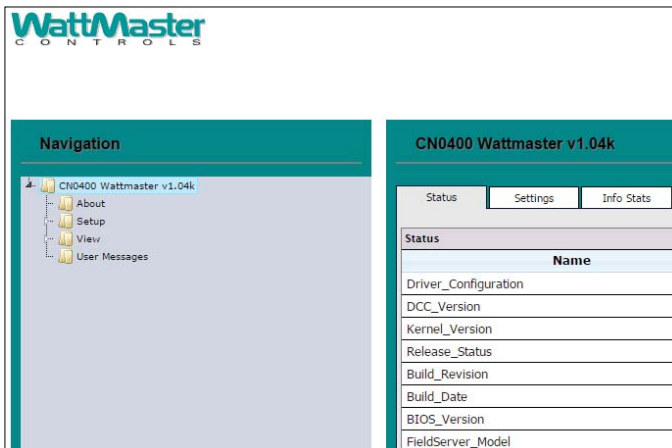

Figure 13: The FS-GUI Main Screen
3. Open your web browser, and type the IP Address of the PT-Link, which defaults to <192.168.1.24>, and press <ENTER>. The GUI will launch. Click <Diagnostic and Debugging>. The Main Screen will appear. See **Figure 13**.